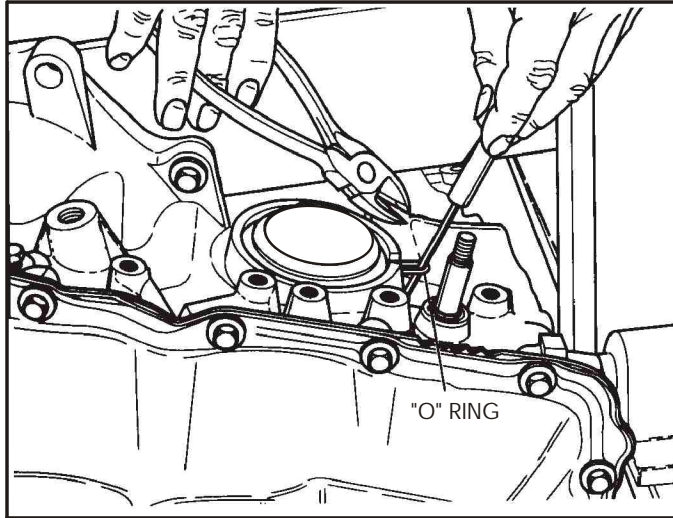

Figure 35
10. Remove the servo cover "O" ring seal pulling it through the slot in the case and cutting, as shown in Figure 35.